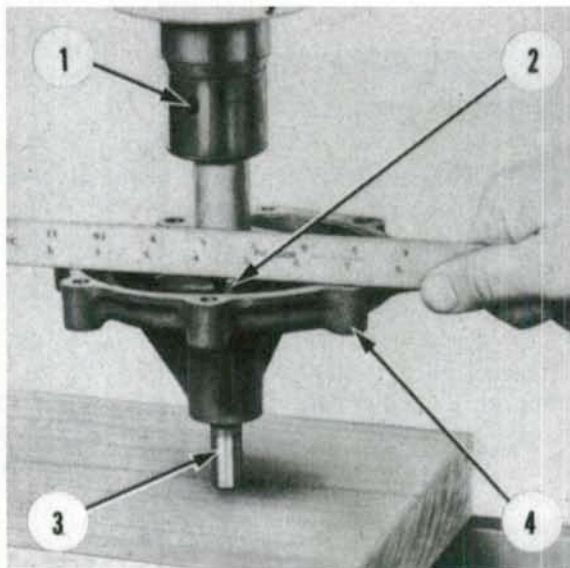
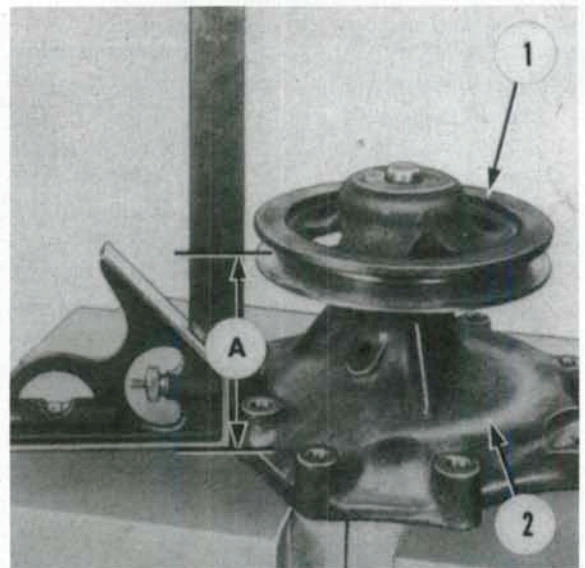

Fig. 142—Support impeller shaft (3) and press impeller onto shaft so impeller vanes (2) are flush with rear face of housing (4).
Fig. 143—Press pulley (1) onto pump shaft until distance (A) from center of pulley V-groove to rear face of housing (2) is 3-3/8 inches (86 mm).
Using a suitable size sleeve that contacts outer diameter of bearing, press new bearing and shaft into pump housing from the front until end of bearing is flush with front face of housing. Apply a thin coat of sealer to outer diameter of seal, then position seal over the shaft and into housing bore. Using tool No. 4672 or other suitable installing tool, press seal into housing until flange of seal is seated against housing. Support front of pump shaft (3—Fig. 142), then press impeller into shaft so impeller vanes (2) are flush with rear face of housing (4). Support rear end of shaft, then press pulley onto shaft until center of belt groove is 3-3/8 inches (86 mm) from rear face of housing as shown at (A—Fig. 143). Install rear cover with new gasket and tighten retaining cap screws to a torque of 20 ft.-lbs. (27 N·m).